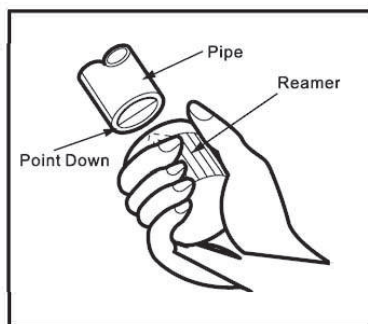

Fig. 6
- 2) Remove burrs on the cutting edges. Keep the pipe outlet down to avoid the metal powder into the pipe (Fig. 6).